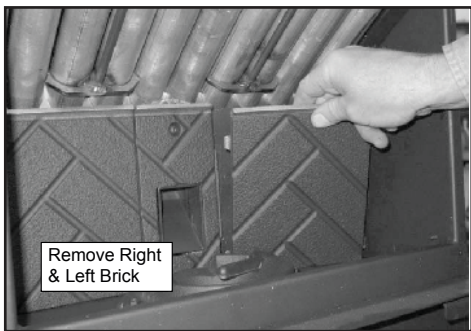

Figure 18.2
3. The top baffle must be removed before you can remove the right and left brick. Remove the right brick by holding top lip of brick and lifting up, then push outside edge back. Slide brick to the right until it is flush with the firebox. Rotate the inside edge of the brick forward and remove brick. Repeat for left brick. **Figure 18.2.**